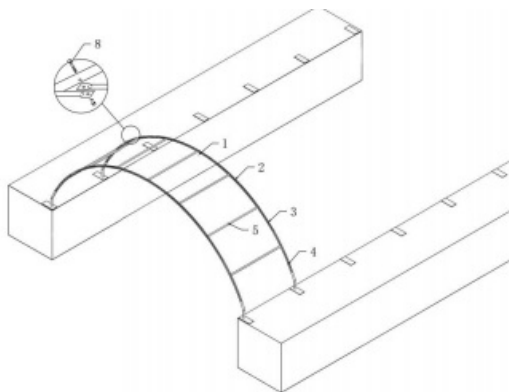

Figure 5
3. Connect purlins for the roof frame as illustrated in Figure 5. Repeat for all arch frame groups.
- Connecting purlins for roof frame like the Figure 5 as below. By turns, install all other groups of arch frames.